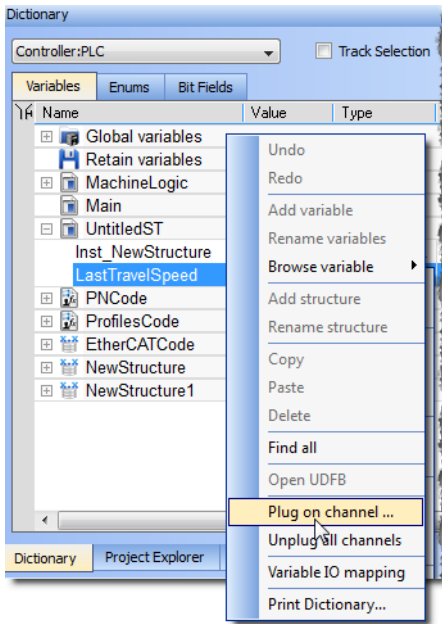

Figure 4-82: Selected menu option: Plug on channel...
1. In the Variable Dictionary, right-click on the variable `lastMachineSpeed` and click **Plug on channel...** (Figure 4-82)